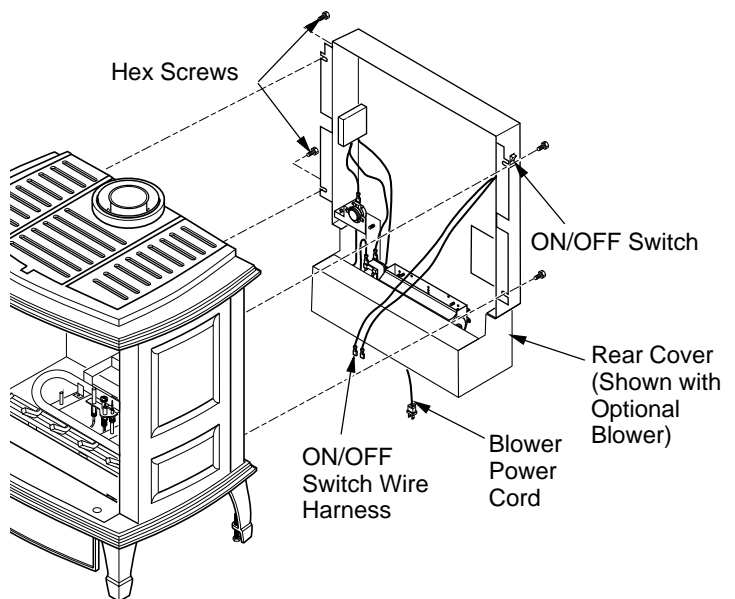

Figure 19 - Installing Rear Cover (Shown with Optional Blower Accessory)
3. Using hex screws provided, attach rear cover to back of stove body. See Figure 19. **IMPORTANT:** This rear cover must be securely in place before venting pipes are installed.